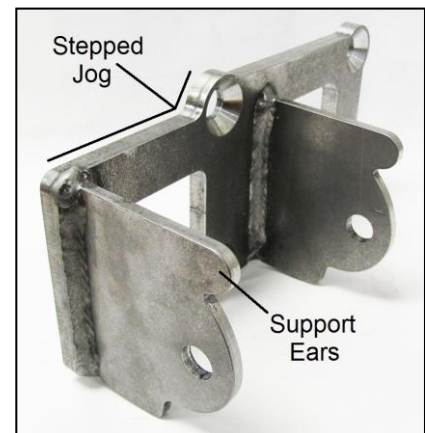

Figure 1 – Driver's Side Mount
4. Attach the included left and right side Hooker Blackheart engine brackets to the engine. The proper indexing and left/right orientation of the brackets is achieved by ensuring the profiled clamshell **support ears** are positioned towards the front of the engine and the long **stepped jog** along the outer profile of the base plates are positioned up towards the top of the engine (**Figure 1**).